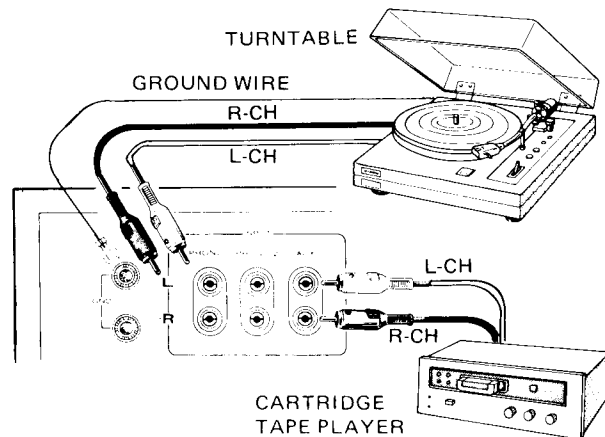

Fig. 3
- Connections between the turntable OUTPUT terminals and the receiver PHONO input jacks should be made as shown in Fig. 3, taking care not to confuse L & R channels. If, as in Fig. 3, the turntable is fitted with a ground lead or plug, this should be connected to the receiver GND terminal.
These are a set of spare input jacks, which can be connected to a cartridge tape player, television sound tuner, or other signal source. The upper of the two jacks is the L(left) channel, and the lower is the R (right) channel (Fig. 3).